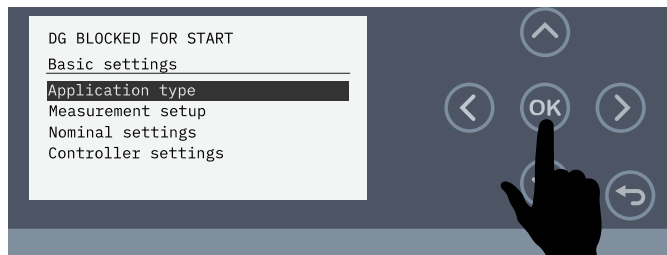

Figure 75. Select Application Type
4. Make sure **Application Type** is highlighted (Figure 75), then press the OK button.